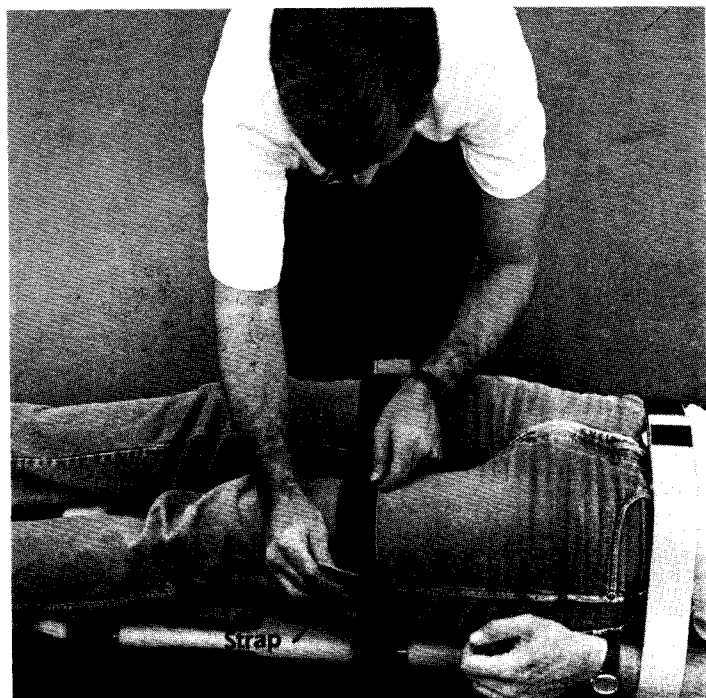

Figure 6.1
6.1 Adjust the leg straps. (Figure 6.1)